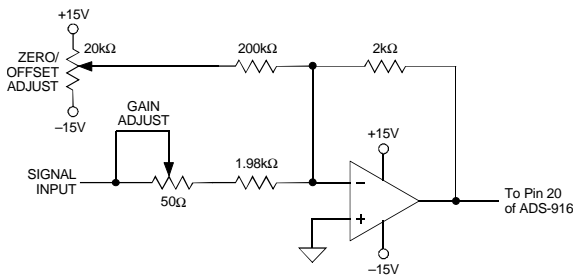

Figure 2. ADS-916 Calibration Circuit
Bypass all power supplies and the REFERENCE OUTPUT (pin 21) to ground with 4.7µF tantalum capacitors in parallel with 0.1µF ceramic capacitors. Locate the bypass capacitors as close to the unit as possible. If the user-installed offset and gain adjusting circuit shown in Figure 2 is used, also locate it as close to the ADS-916 as possible.
- initial offset and gain errors can be reduced to zero using the input circuit of Figure 2. When using this circuit, or any similar offset and gain-calibration hardware, make adjustments following warmup. To avoid interaction, always adjust offset before gain.
(Refer to Figures 2 and 3)
Any offset and/or gain calibration procedures should not be implemented until devices are fully warmed up. To avoid interaction, offset must be adjusted before gain. The ranges of adjustment for the circuit of Figure 2 are guaranteed to compensate for the ADS-916's initial accuracy errors and may not be able to compensate for additional system errors.
All fixed resistors in Figure 2 should be metal-film types, and multiturn potentiometers should have TCR's of 100ppm/°C or less to minimize drift with temperature.